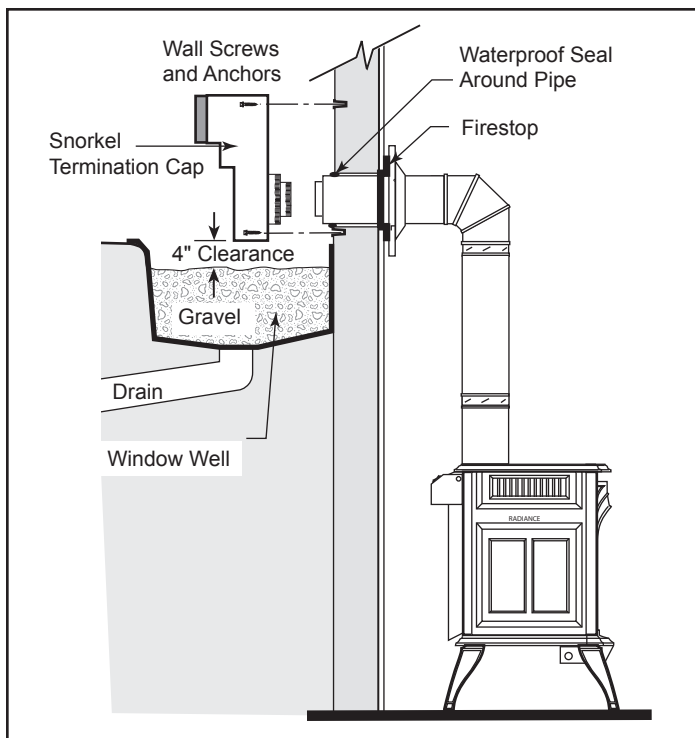

Figure 35 - Snorkel kit installation.
Install Snorkel Kit #SLP-SNORK when it is not possible to meet the required vent termination clearances of 12" (305 mm) above grade level. The snorkel kit will allow installation depth of down to 7" (178 mm) below grade level. The seven inches is measured from the center of the horizontal vent pipe as it penetrates the wall. **If the venting system is installed below grade, a window well must be installed with adequate and proper drainage.** (Figure 35)
2. Remove soil to a depth of approximately 16" (406 mm) below the base of the snorkel. Install a window well (not supplied). Refill the hole with 12" (305 mm) of coarse gravel and maintain a clearance of at least 4" (102 mm) below the snorkel. (Figure 35)